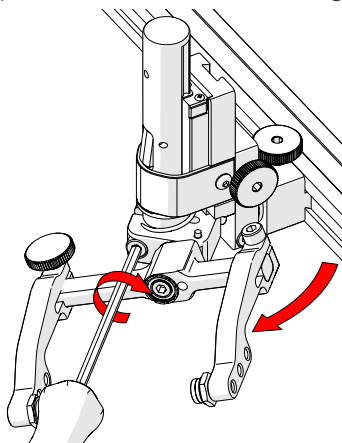

Fig. 137 - Rotate and tighten
3. Tighten the transverse adjustment screw (*Fig. 137*).